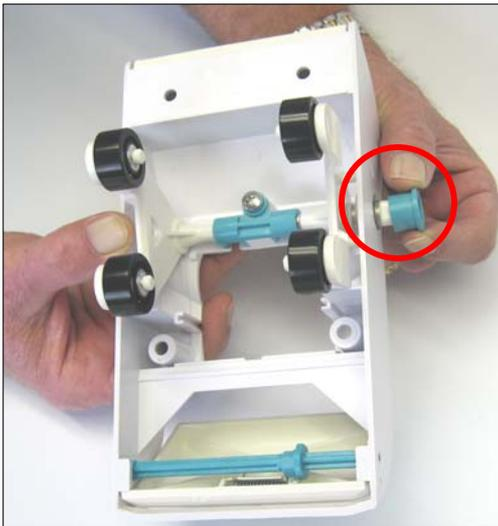

Figure 27
1. Remove the pod and A-frame bushings from the lower body on both sides (fig 27).